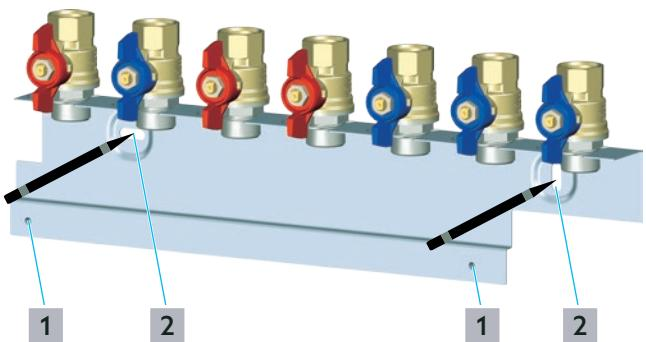

Fig. 6: Installation of the ball valve connection set
- 5 Screw the threaded bolts into the retaining plate (position 1 in Fig. 6 on page 16).